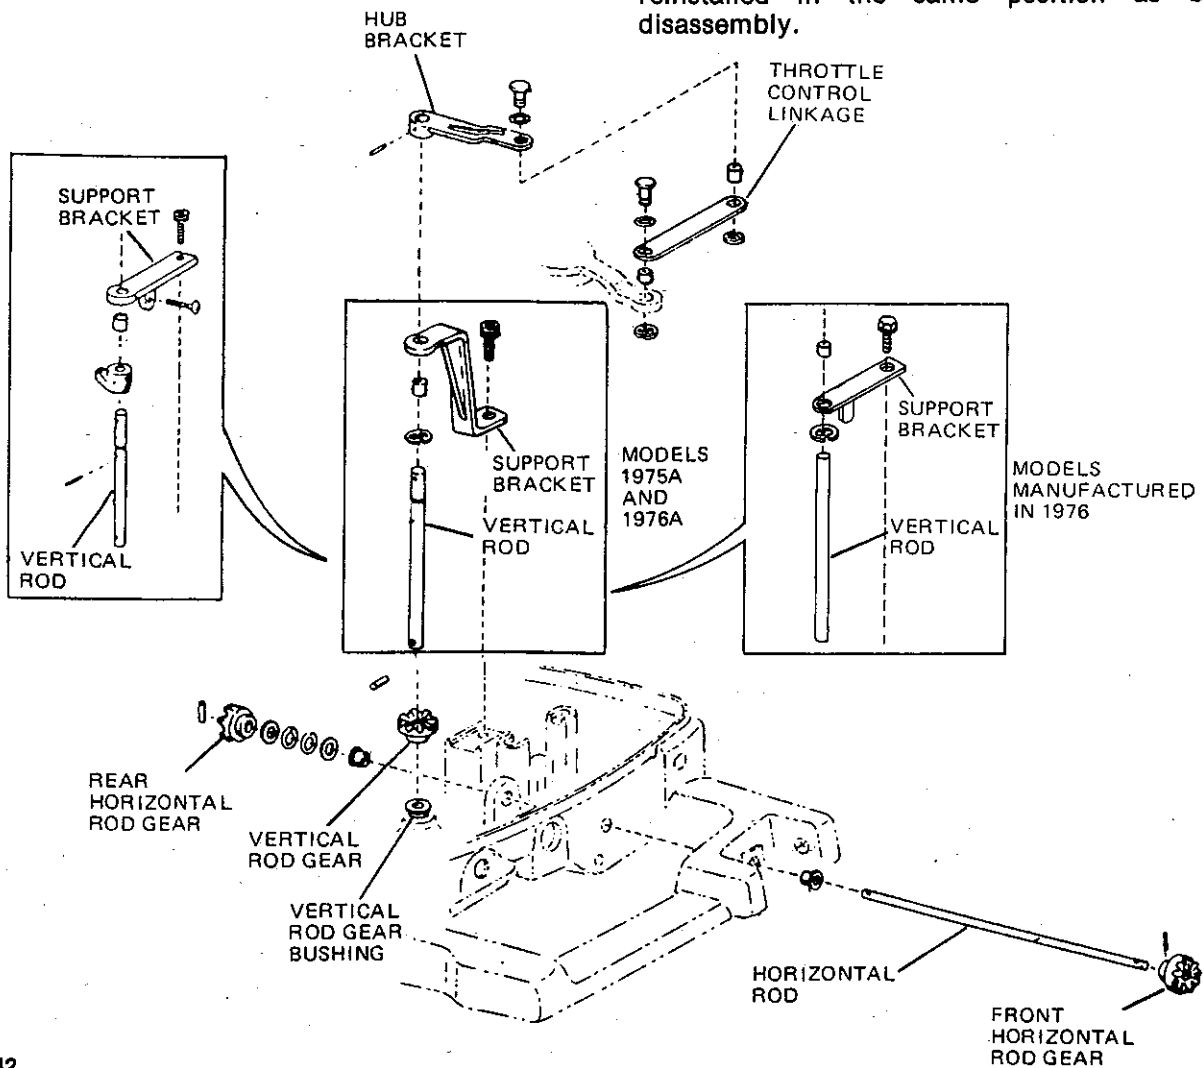

Figure 42
**8. REMOVE AND REPLACE THROTTLE LINKAGE PARTS (Twist grip models prior to 1977) (Figure 42)**